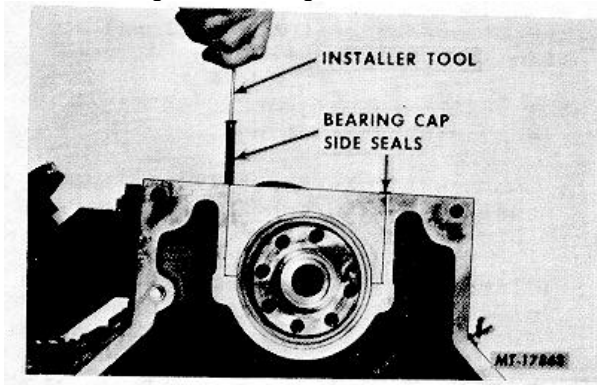

Fig. 112. Installing Rear Main Bearing Cap Side Oil Seals
11. Insert rear main bearing cap side oil seals (Fig. 112). Use an installer made from 3.18 mm (1/8") welding rod approximately 203.2 mm (8") long. To make the tool, puddle a ball on end of rod and file ball to approximately 3.97 mm (5/32") diameter. Lubricate seals with a light coat of engine oil.